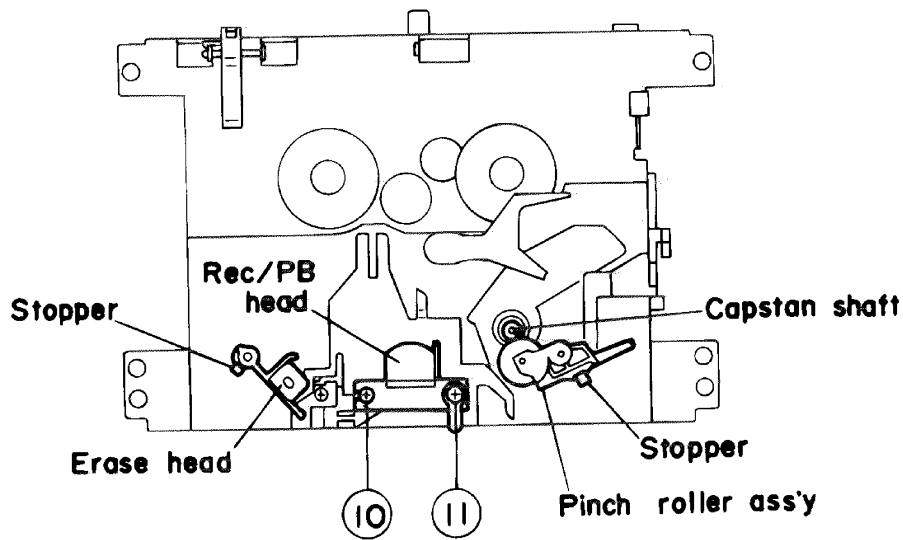
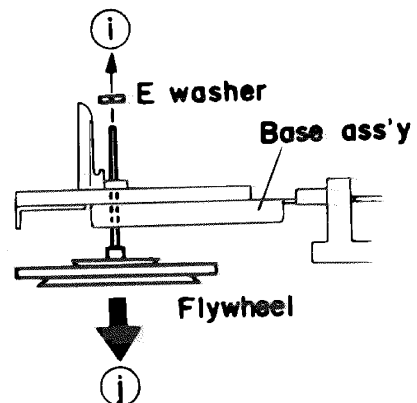

Fig.2-13
Fig.2-16
■ Pinch roller assembly (Fig.2-13 to 2-14)
1. Pull out the stopper protruding from the base assembly in the direction of the arrow ⑤ to remove it from the pinch roller assembly.
2. Then, pull out the pinch roller assembly in the direction of the arrow ⑥.
■ Rec /PB head and erase head (Fig.2-13 to 2-15)
1. Remove two screws ⑩, ⑪ retaining the Rec/PB head.
2. Pull out the stopper of the erase head in the direction of the arrow ⑧.
3. Pull out the erase head in the direction of the arrow ⑨.
■ Flywheel assembly (Fig.2-16)
1. Remove the split washer retaining the flywheel assembly in the direction of the arrow ①.
2. Pull the flywheel assembly out of the back side of the cassette mechanism assembly in the direction of the arrow ②.